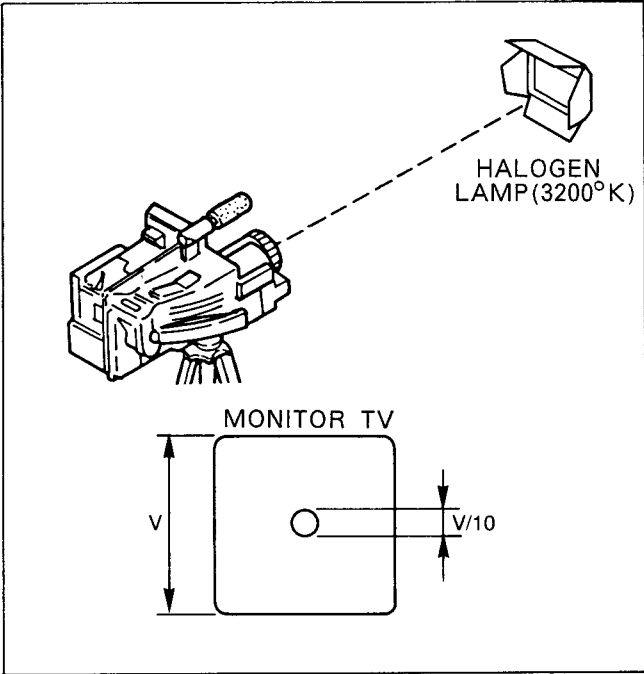

Fig. C7-1
- (1) Zoom all the way in (Fully tele position) and aim the camera at the Halogen Lamp (3200 degrees K) as shown in Fig. C7-1.